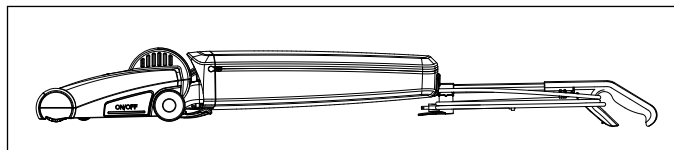

Figure 9
To release the machine from the upright locked position, press down on the foot pedal (13) and lower the handle into the normal operating position. The handle can be lowered to a horizontal position useful for vacuuming under beds (figure 9).